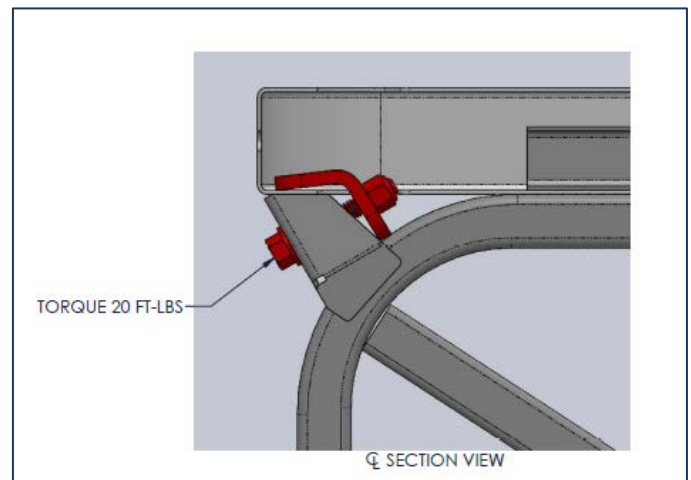

Figure 9: Bracket, Nut, and Bolt Assembled
11. Install the front leg bracket, bolt, and nut from the kit. See **Figure 9**.